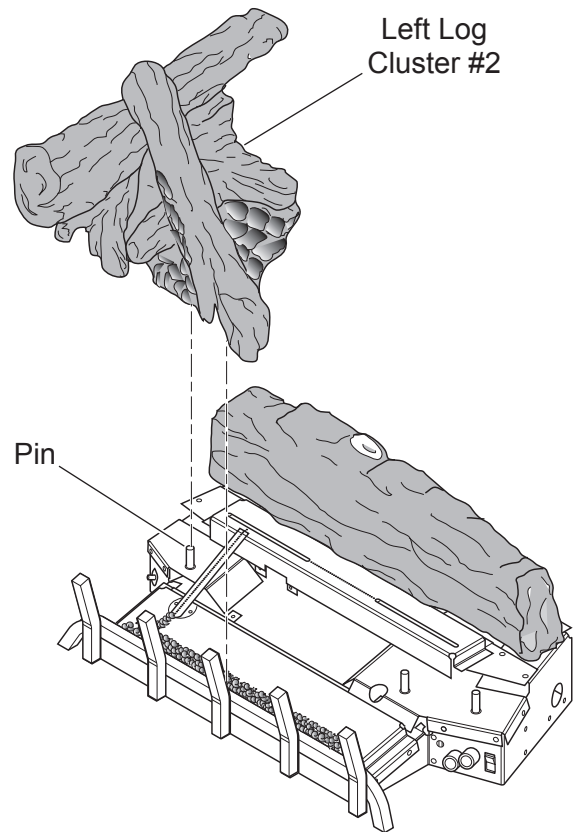

Figure 27 - Installing Left Log Cluster (#2)
2. Install left log cluster (#2) on pin located near left edge of base. See Figure 27.